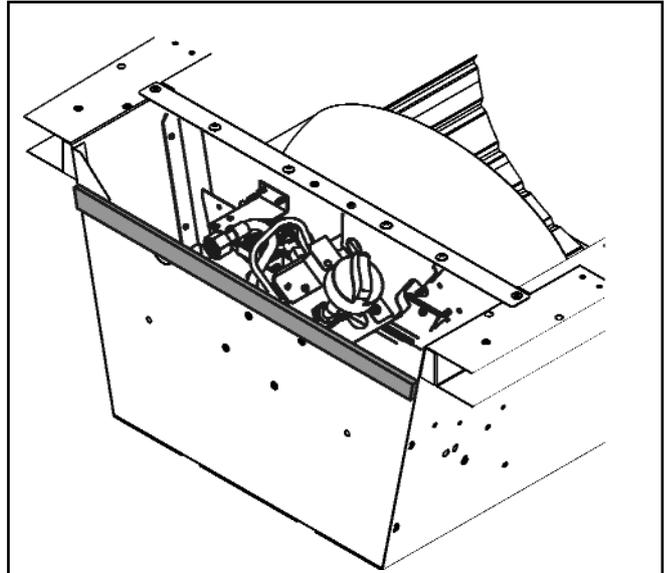

Figure 14. Fitting the foam seal to the base of the hotbox.
9. Supplied with the fire are short and long lengths of self adhesive foam seal. Take the short length, peel off the adhesive backing and stick it to the underside of the hotbox (See figure 14).